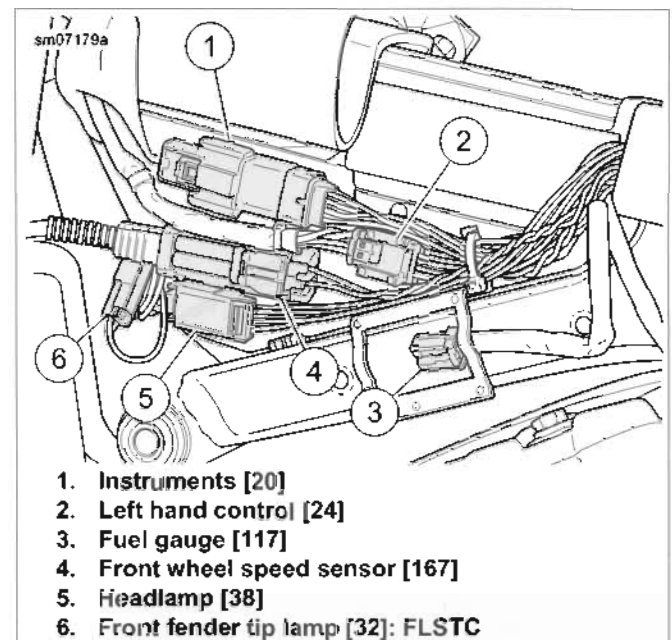
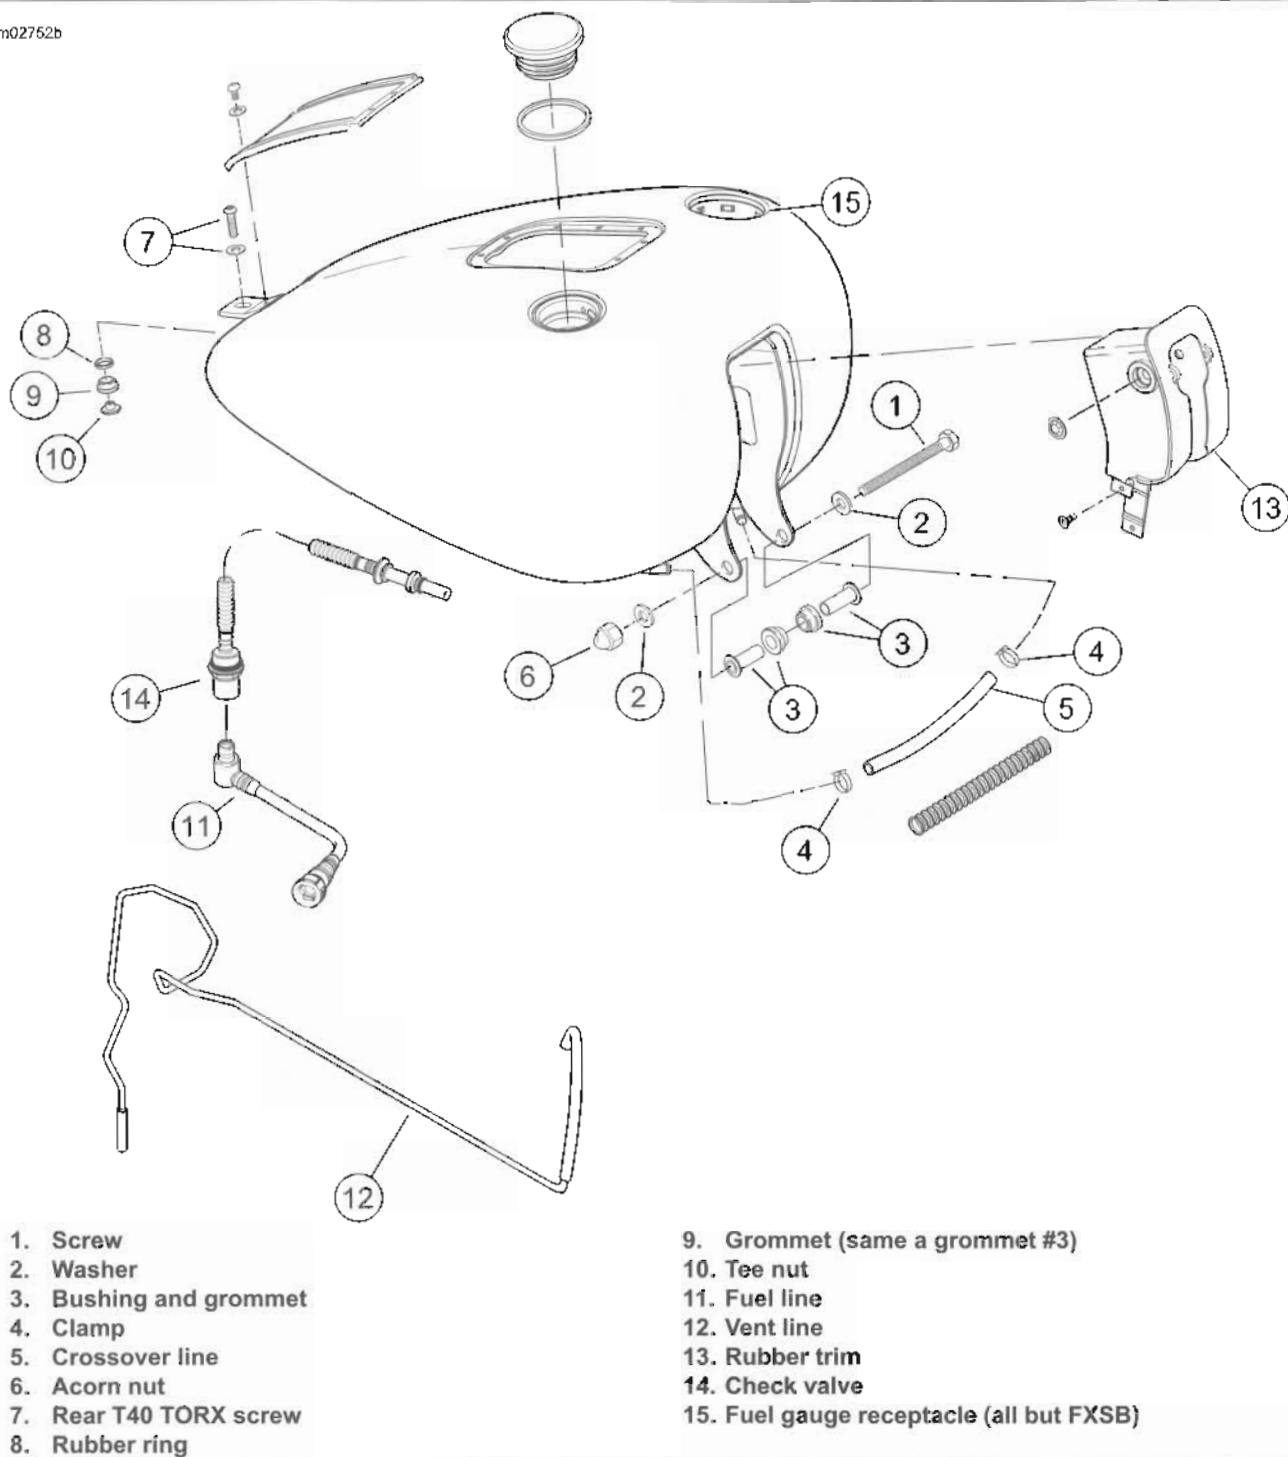
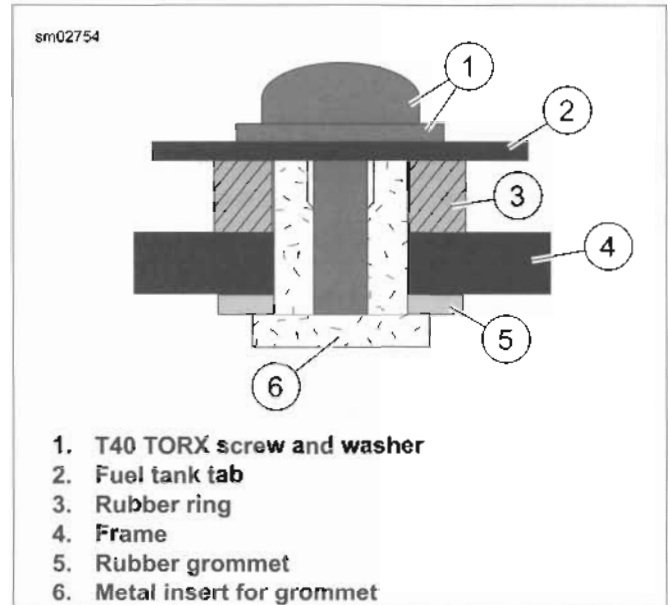

Figure 4-9. Under Fuel Tank Left Side
Figure 4-10. Fuel Tank
Figure 4-11. Rear Tank Screw
- a. See Figure 4-10. Remove the rear T40 TORX screw and washer (7).
- b. Remove the acorn nut (6), washers (2), and front mounting screw (1).
- c. Remove continuous vent line (12) from nipple on fuel tank top plate.
- d. **All but FXSB:** see Figure 4-9. Disconnect fuel gauge connector (3) and remove from clip.
- e. See Figure 4-10. Remove fuel tank. Remove rubber trim (13) to access connectors along frame. Remove bushings and grommets (3) if necessary.
1. See Figure 4-10. Install continuous vent line (12) to nipple on fuel tank top plate. Make sure vent line runs along right side of frame backbone under rubber trim (13).
2. **All but FXSB:** see Figure 4-9. Connect the fuel gauge connector (3) and secure under clip.
- a. See Figure 4-10. Place a washer (2) over front screw (1). Starting on left side, loosely install screw and washer through tank, bushings and grommets (3) and frame. Place washer (2) and acorn nut (6) on right side.
- b. See Figure 4-11. Verify that rubber grommet (5) and metal insert (6) are protruding through frame (4). Metal insert has flats on bottom for positioning. Place rubber ring (3) around grommet/insert and lower fuel tank tab (2).
- c. Install washer and rear screw (1) through fuel tank tab. Tighten to 18-22 ft-lbs (24.4-29.8 Nm).
4. See Figure 4-10. Connect crossover line (5) with **new** clamps (4).